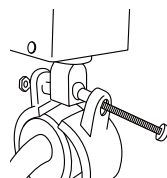

Fig. 3
- Then, while holding the hose clamp in place, snap it onto the piece at the end of the cord. Secure hose clamp to the cord with bolt (fig. 3, 4A, 4B).